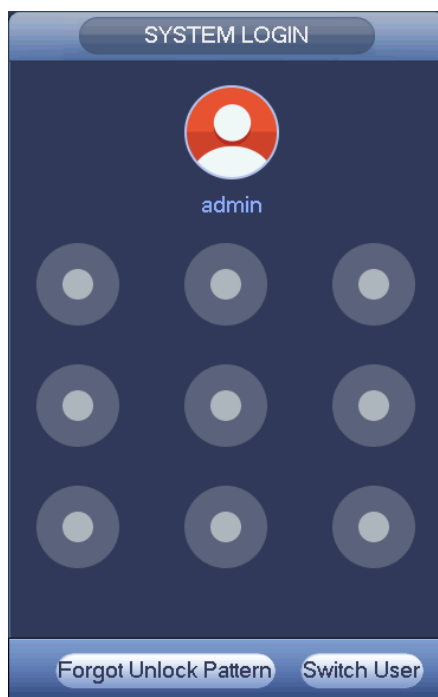

Figure 4-4
Step 1 Go to the device login interface. See Figure 4-4 or Figure 4-5. .
- If you have set unlock pattern, device displays unlock pattern login interface. See Figure 4-4. Click “Forgot Unlock Pattern” and device goes to Figure 4-5.